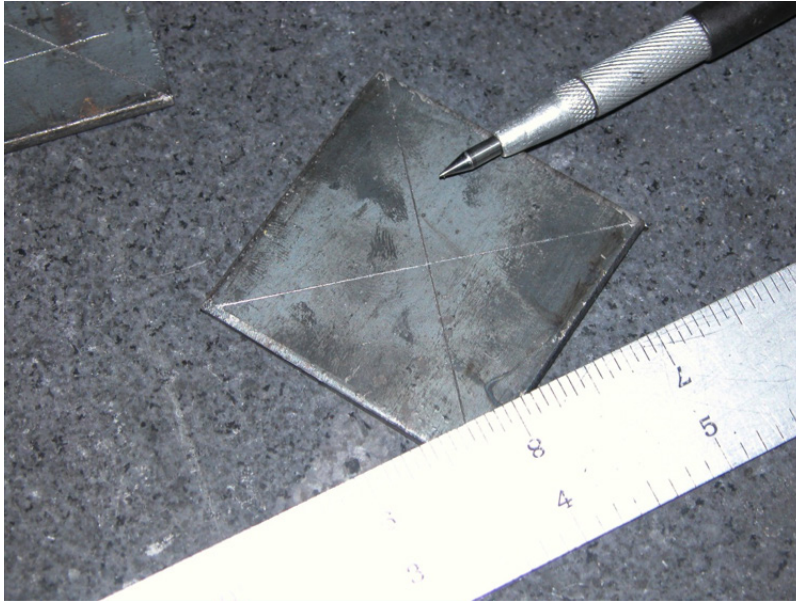

Figure 1—Scribing for #1
6. a. For #1, scribe an "X" from corner to corner to find the centre (Figure 1), then centre-punch the intersection.